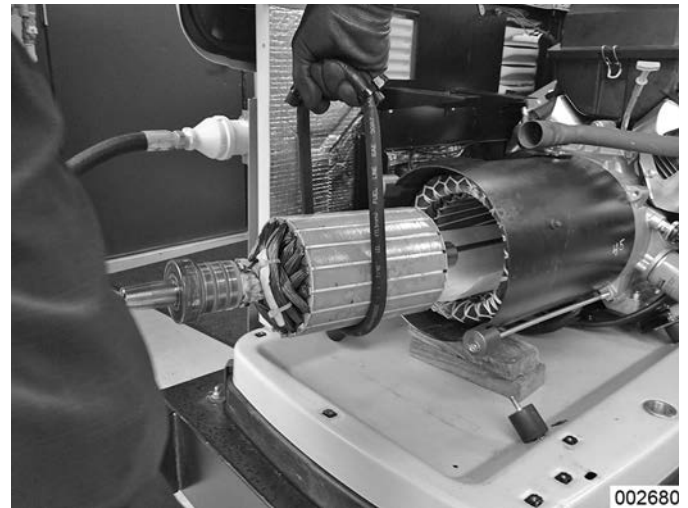

Figure 6-47.
26. **Alternator Air Intake:** See Figure 6-47. Disconnect alternator intake bellows.